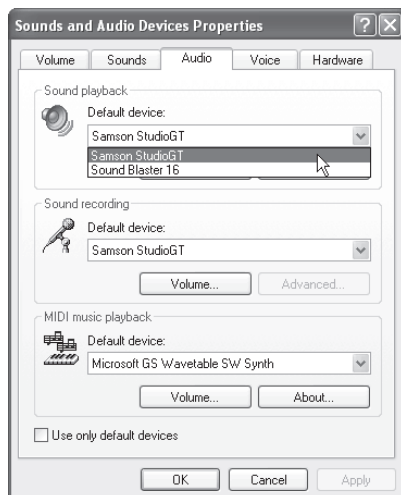

Figure 9
3. You will then set the Studio GT as your SOUND PLAYBACK and SOUND RECORDING default device in Sound and Audio Devices Properties in Control Panel (Figure 9).